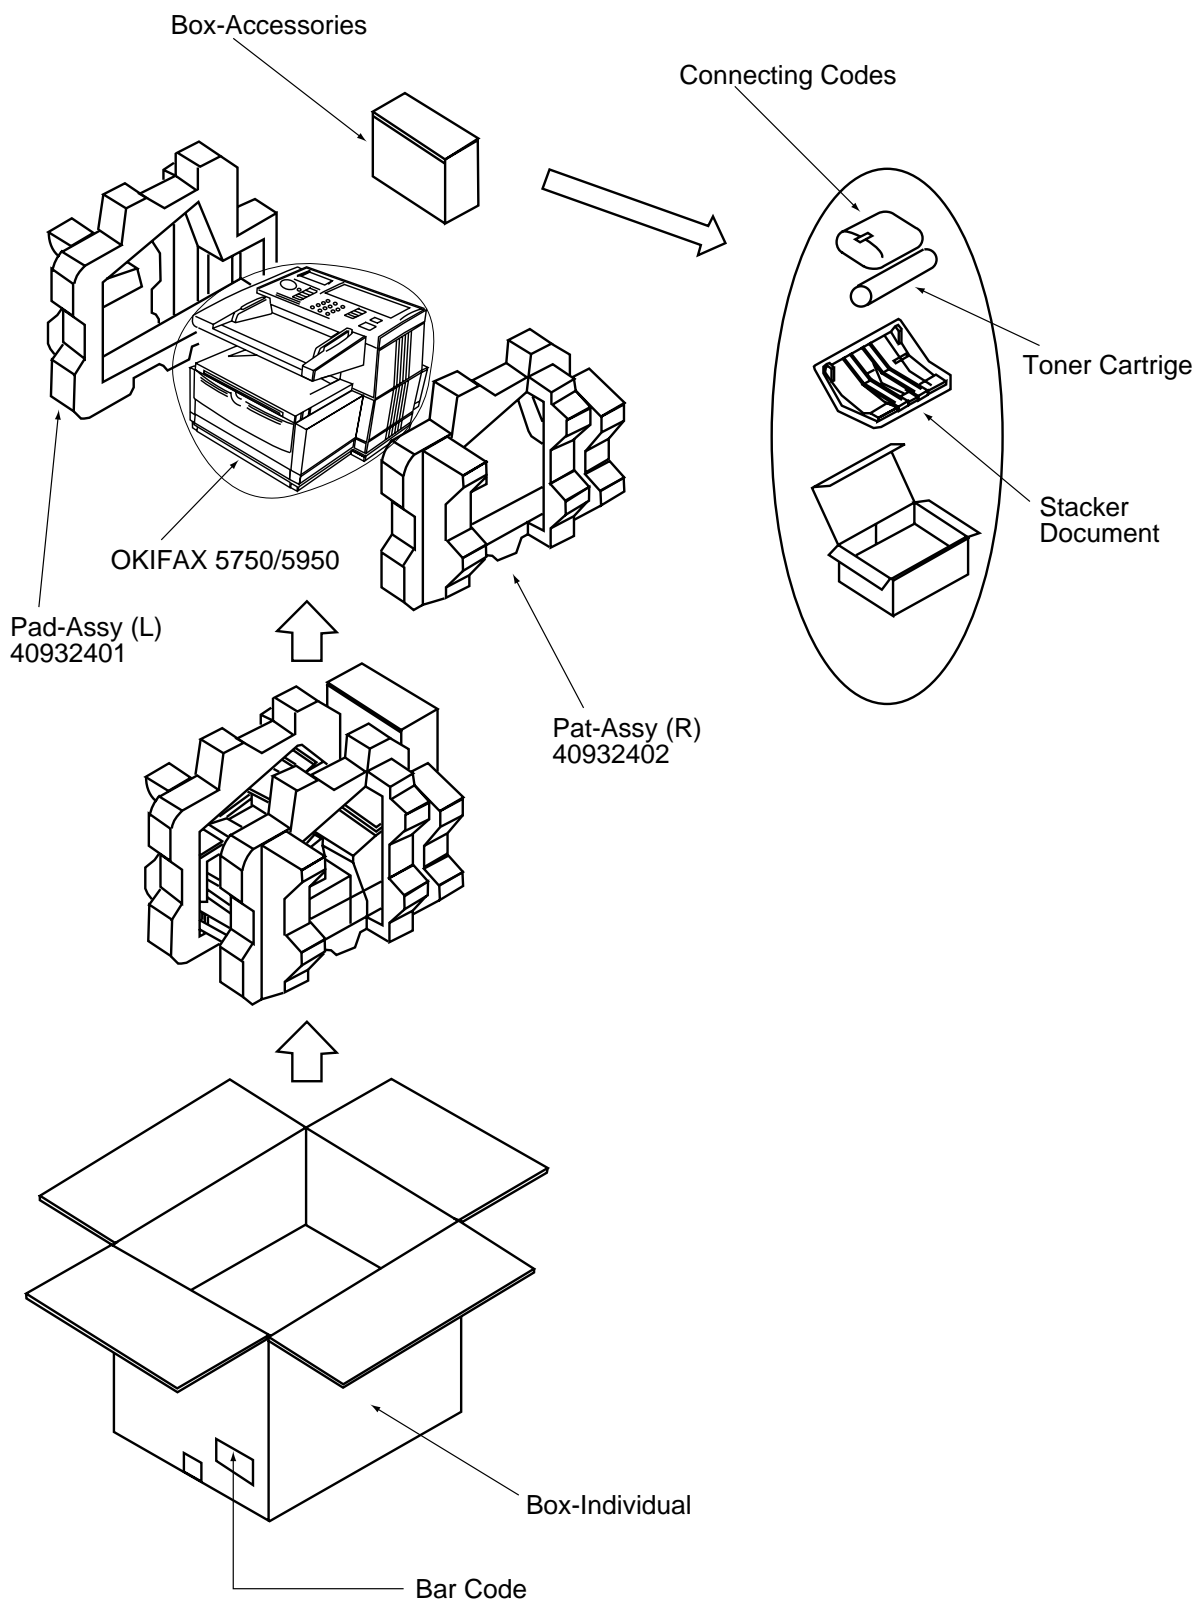

Figure 2.3.2 Unpacking Procedure (2)
- (2) Take out the accessory box from the carton box. (See figure 2.3.2)
- (3) Take out the machine with plastic wrapper from the box.